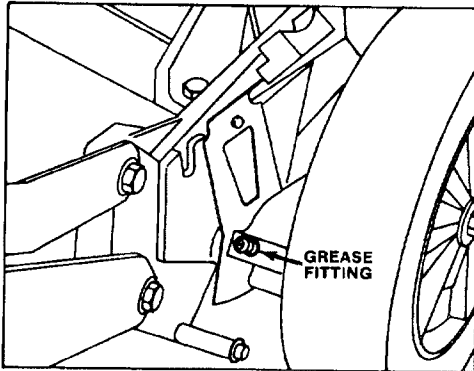

Figure 23
2. Move rear wheel height-of-cut levers to "C" setting. Wipe grease fittings with clean rag (Fig. 23). Install grease gun onto fitting and gently apply 1 pump of #2 Multi-Purpose Lithium Base Grease. Excess pressure may damage seals.